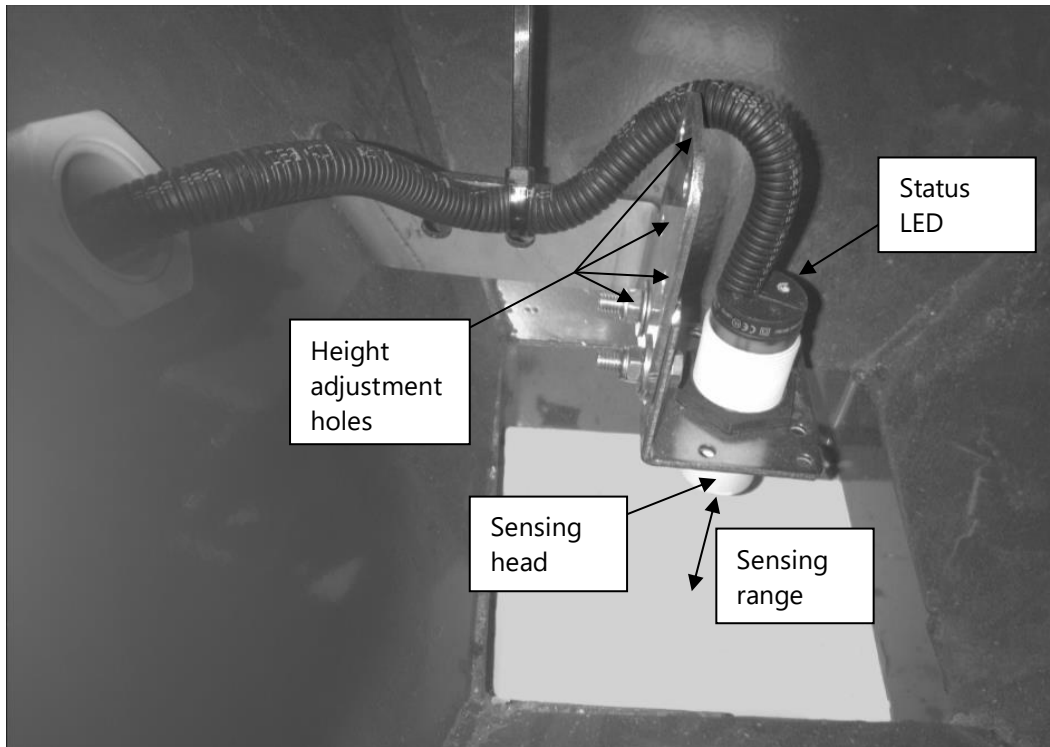

Fig. 32 : Low level capacitive sensor
- Compensation of disc wear: with wear, the disc diameter decrease and it is important to mount it to a lower hole to avoid that the lower part of the blades sticks out from the notches. (see fig. 32)